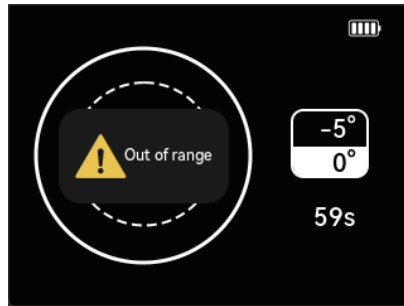

Figure 18
7. When the sensor center is aligned with the X-ray port center and the exposure angle reaches the recommended angle, as shown in Figure 21. Press and hold the exposure button. The display shows "Exposing" as shown in Figure 18. After the "beep" sound ends, the exposure is complete. The display shows "Finish" and returns to